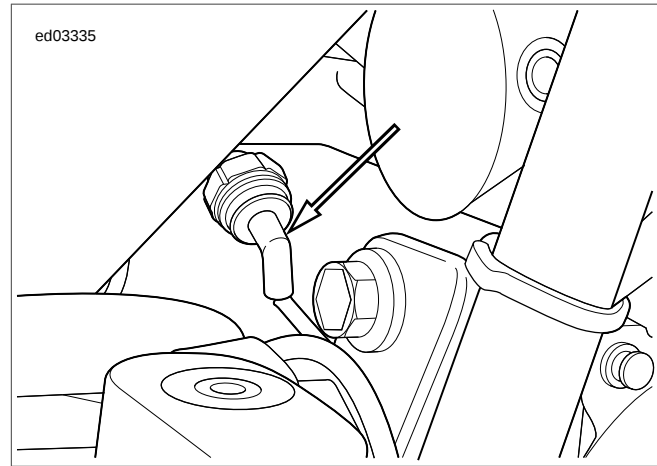

Figure 4-14. Oil Pressure Switch [120]
See Figure 4-14. The neutral indicator is controlled through the (W) wire connected to the speedometer. When the transmission is in neutral, the neutral switch closes and supplies a ground to the BCM on terminal D3. The BCM then sends a message to the speedometer over the CAN bus indicating the transmission is in neutral. The speedometer supplies ground to the neutral indicator causing it to illuminate.
See Figure 4-14. The oil pressure indicator is connected to the speedometer. The switch closes when oil pressure is low and supplies ground to the BCM at terminal E3. The BCM then sends a message to the speedometer over the CAN bus indicating the oil pressure is low. The speedometer supplies ground to the oil pressure indicator causing it to illuminate. This is why the oil pressure indicator is illuminated with the IGN ON and the engine OFF.